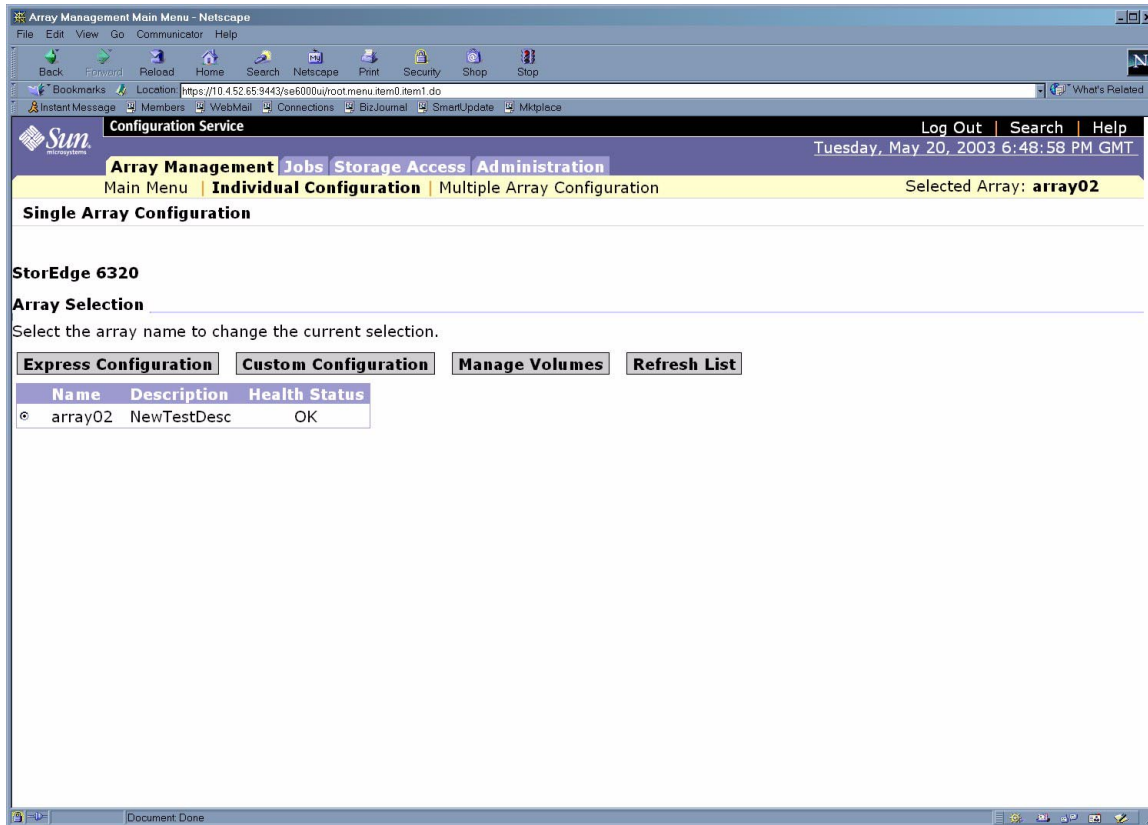

FIGURE 6-19 Single Array Configuration Page
5. Click on **Individual Configuration** and the **Single Array Configuration Page** is displayed as shown in FIGURE 6-19.